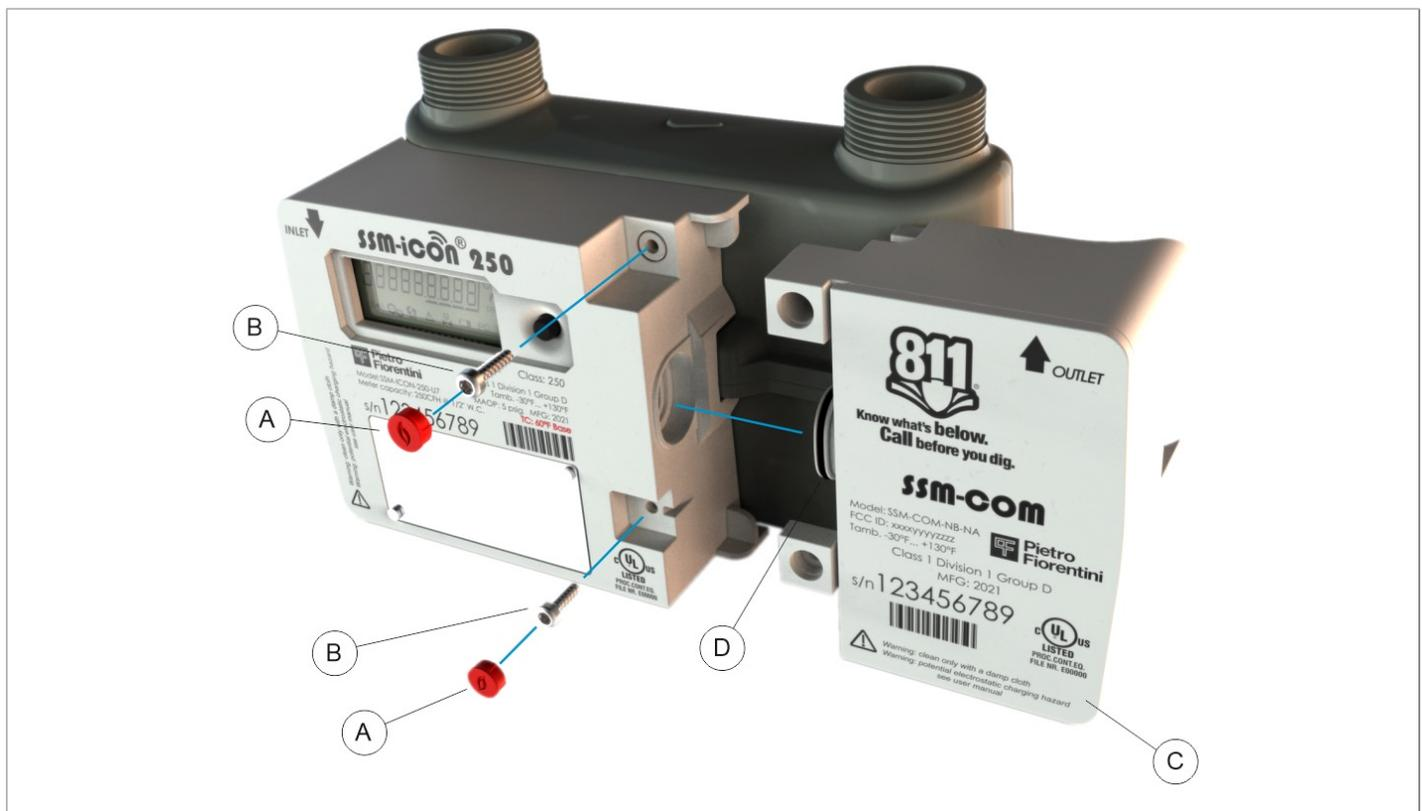

Fig. 11.9. Spare parts
- the location shown on the equipment assembly drawing (Fig. 11.9);